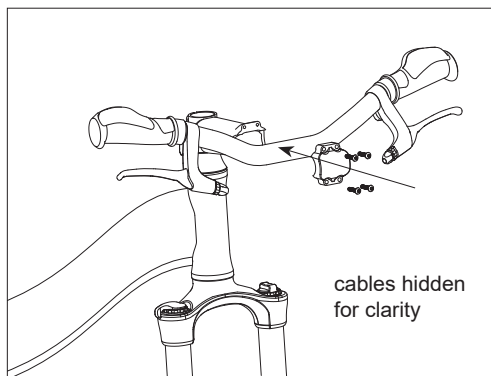

Fig. 16: Replace and center handlebars.
2. Place and center handlebars within the stem (some have centerline marks), and replace screws (Fig. 16).